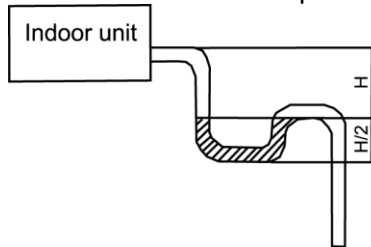

Figure 3-1-52
- (5) If the air flow of indoor unit is high, this might cause negative pressure and result in return suction of outdoor air. Therefore, U-type water trap shall be designed on the drainage side of each indoor unit.(Figure 3-1-52)
- (6) Install one water trap for each unit.
- (7) Installation of water trap shall consider easy cleaning in the future.